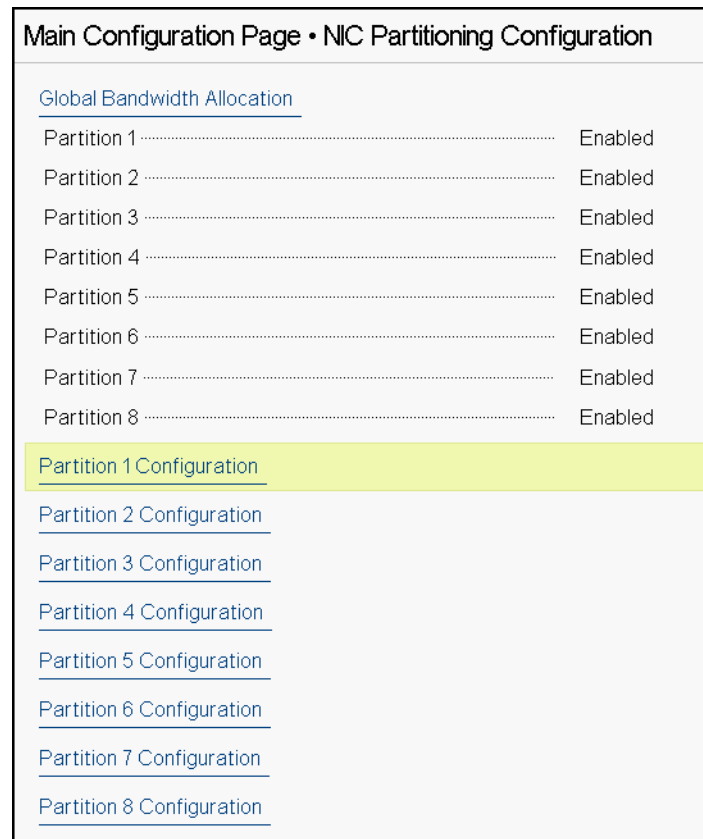

Figure 5-15. NIC Partitioning Configuration, Global Bandwidth Allocation
2. On the Partitions Configuration page (Figure 5-15), select **Global Bandwidth Allocation**.
1. To examine a specific partition configuration, on the NIC Partitioning Configuration page (Figure 5-15 on page 61), select **Partition *n* Configuration**. If NParEP is not enabled, only four partitions exist per port.